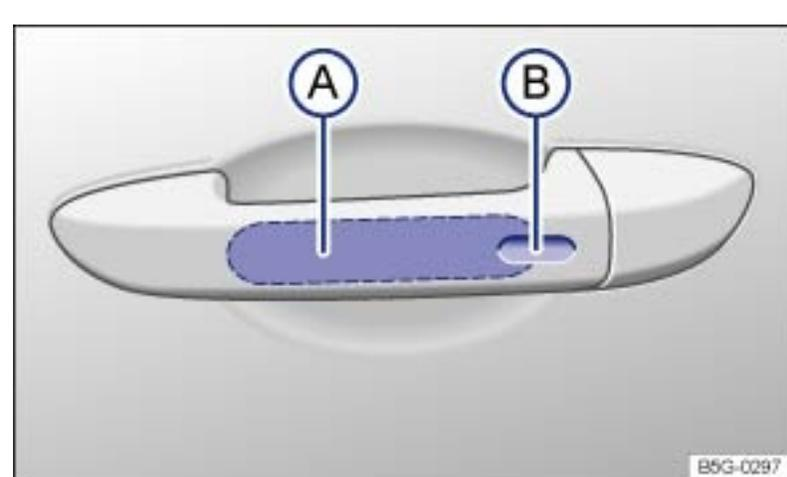

Fig. 29 Keyless Access system: Sensor for unlocking Ⓐ on the inside of the front door handles. Sensor for locking Ⓑ on the outside of the front door handles.
button start, a keyless starting and locking system that unlocks and locks the vehicle without active use of a remote control vehicle key. All you have to do is touch a sensor surface on one of the front outside door handles → Fig. 29 or push the Volkswagen emblem on the rear hatch → Opening the rear hatch when a valid remote control vehicle key is within range →!.
- ▶ Keyless Entry: Unlocking the vehicle with the sensor surfaces on the outside door handles of the driver or front passenger door → Fig. 29 \(A\) or by using the Volkswagen emblem on the rear hatch.
the driver or front passenger door → Fig. 29  .
- ▶ Grasp the door handle of the driver or front passenger door so that you touch the unlocking sensor surface → Fig. 29 \(A\) .
- ▶ Touch the sensor surface in the door handle on the driver or front passenger door → Fig. 29 \(B\) one time. The vehicle is locked. The door being locked must be closed.
To use the convenience closing feature to close all power windows and the sunroof, hold your finger on the lock sensor surface on the outside of the door handle → Fig. 29 ② for a few seconds until the windows and sunroof close.